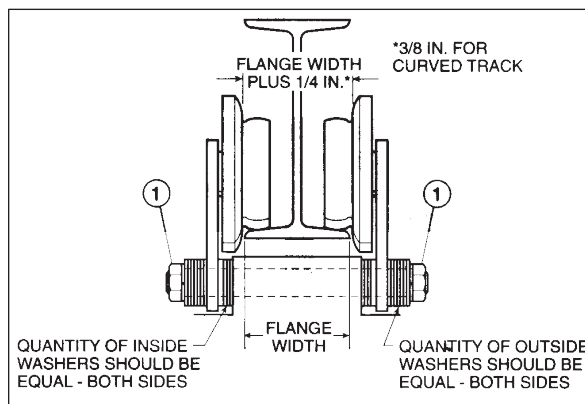

Figure 2-1. Sectional View of Trolley showing proper wheel and washer spacing
- Trolley Mounted** hoists are attached to moveable trolleys. If the hoist is mounted on an existing trolley, a qualified person shall determine that the trolley and its supporting structure are adequate to support the rated load and weight of the hoist. Hoist/trolley units may be shipped from the factory with trolley packaged separately. If the trolley can be installed directly over the end of the supporting beam, assemble trolley to hoist. Be certain that the spacing between wheel flanges, after assembly, is 1/4" greater than exact width of beam flange. (See Figure 2-1 below and instruction sheet furnished with trolley.) Using proper equipment, carefully lift trolley and hoist and install on end of beam.
For trolleys which are to be mounted along the span of a beam not having open ends, measure exact width of beam flange and assemble trolley to hoist so that spacing between wheel flanges is 1/4" (see Figure 2-1) greater than beam width (3/8" if beam has curves). This is accomplished by rearranging the spacer washers on the bolts connecting trolley side plates to hoist mounting lug. If trolley is shipped separate from hoist, see instruction sheets furnished with trolley for orientation and installation.
When proper spacing has been determined, loosen mounting nuts (item 1, Figure 2-1) to allow trolley wheels to spread far enough to pass over edges of beam flange. (Some installations may require complete removal of one trolley side plate.) Using adequate equipment, carefully lift the hoist and